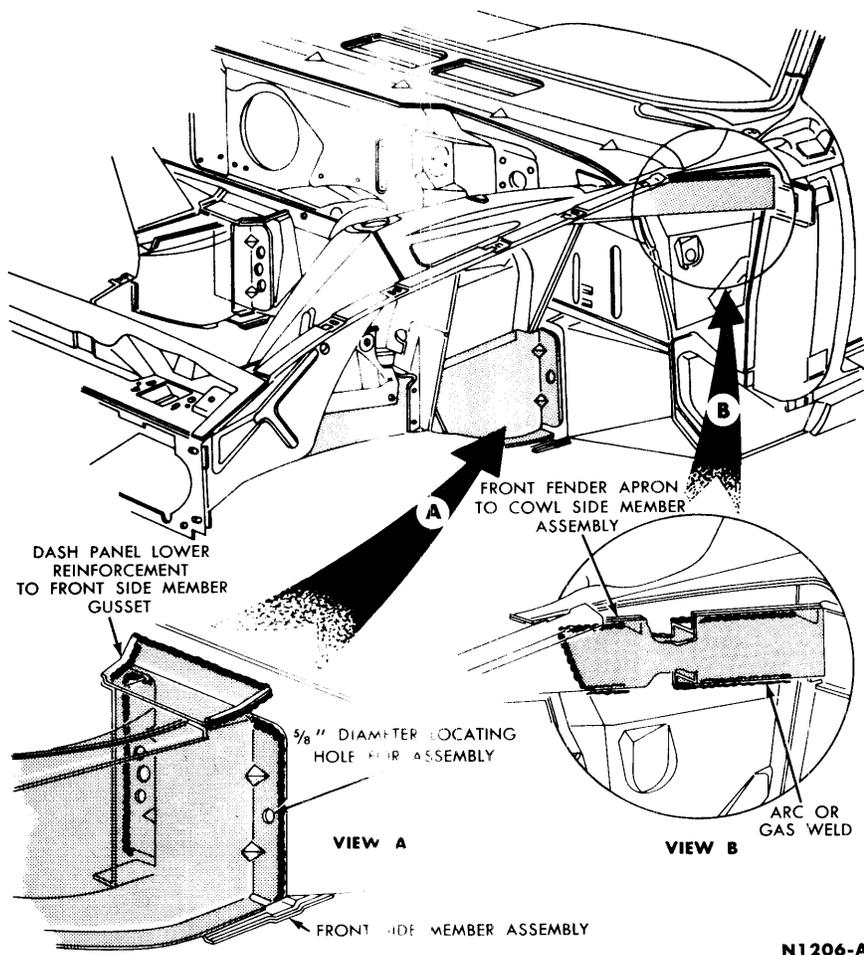

FIG. 66—Welded Front End Structure
1. Position the front side member assembly against the torque box in lower dash panel area (Fig. 66). Locate the front side member assembly by inserting a 5/8 inch pin through the 5/8 inch locating holes in the front side member assembly and dash panel (Fig. 66).
2. Apply arc or gas weld along both sides of the front side member as shown in Fig. 66.
ber gusset over the front side lower member to obtain flush contact with the dash panel and the lower member (Fig. 66).
4. Clamp the gusset to the lower member and tack weld the gusset in place. Remove the clamp and weld the gusset as shown in Fig. 66.
3. Tack weld the member assembly in place, remove the clamp and complete the weld pattern as shown in Fig. 66—View "B".